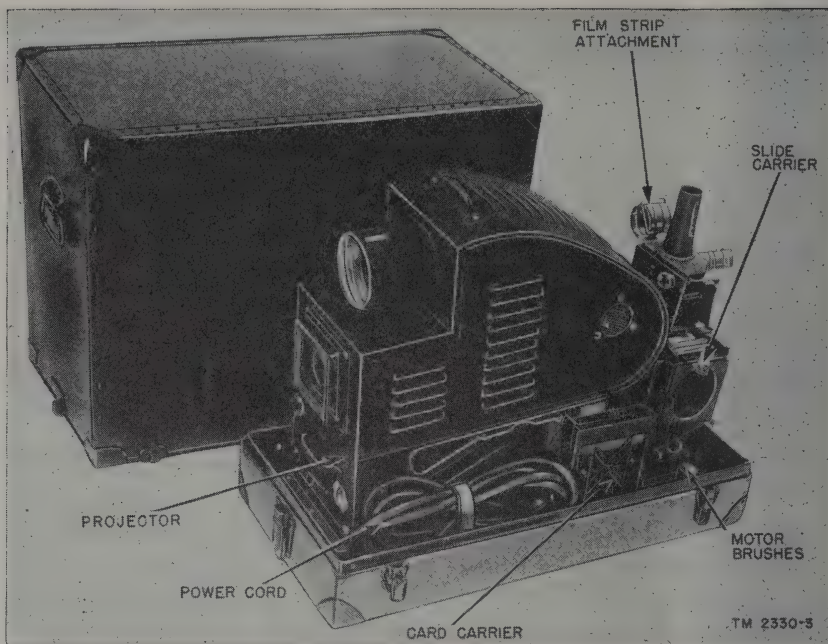

Figure 5. Projector and accessories in case, front and left side.
18. Removing Projector and Accessories from Carrying Case (figs. 5 and 6)